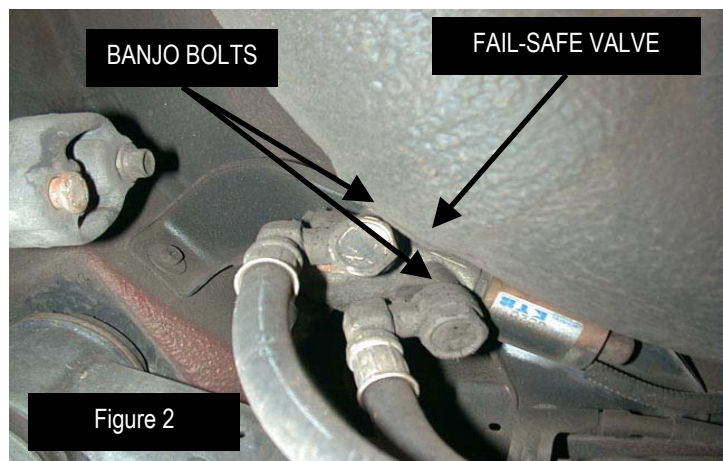

Figure 2
3. Remove the two banjo bolts attaching the hoses to the Super Hicas Fail-Safe Valve (see fig. 2).